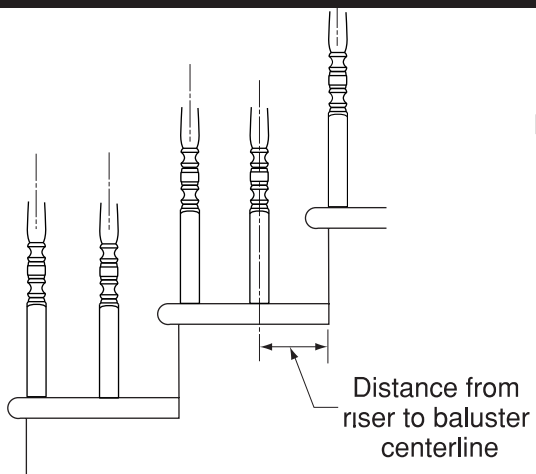

Fig. 5-16
1. Measure the distance on the tread from the back of the riser to the center of the back baluster. Please note Fig. 5-16 here.